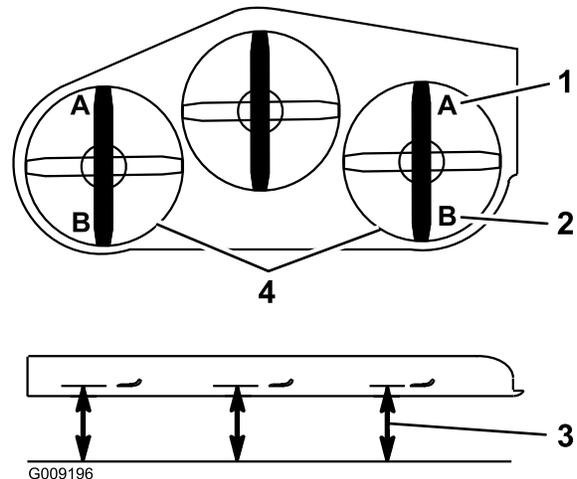

Figure 85
Note: The measurement should read 7.6 mm (3 inches); refer to Figure 85.
15. On both sides of the deck, measure from the level surface to the back tip of the blade (Position B). The measurement should read 8.3 cm (3-1/4 inches); refer to Figure 85.